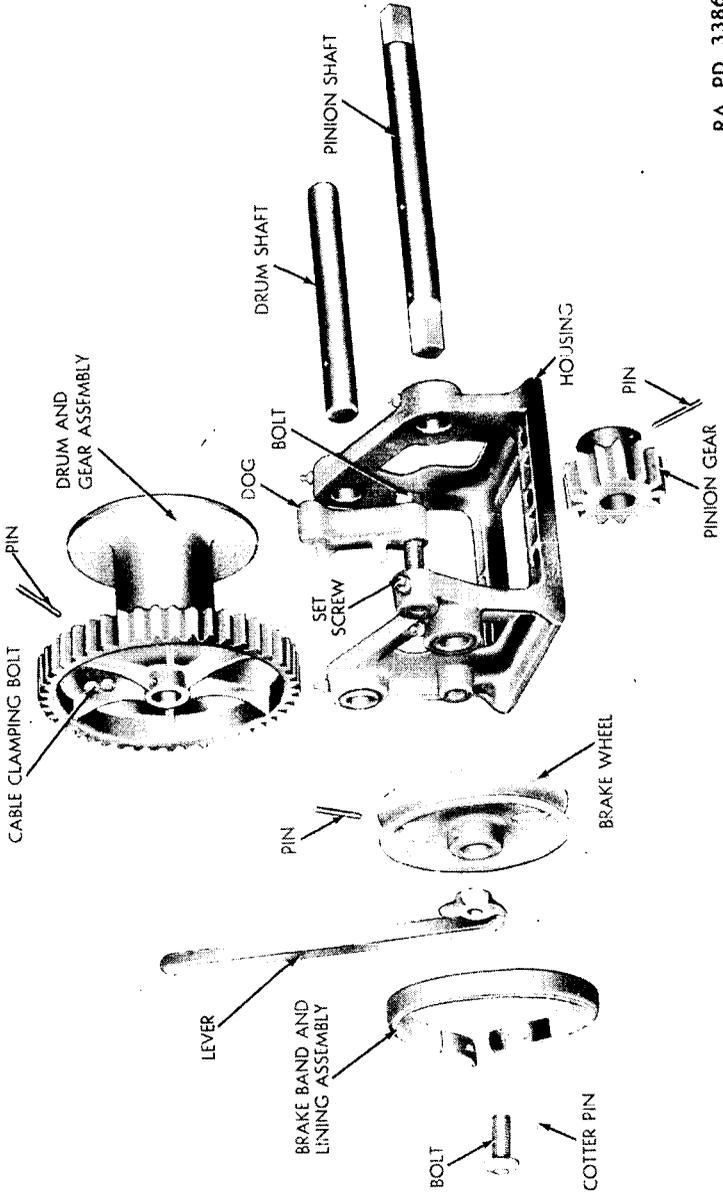

Figure 42. Winch assembly, exploded view (M41).
c. **DISASSEMBLY** (fig. 42). Remove the brake band by removing two cotter pins. Remove nut and lever. Loosen set screw, remove bolt, releasing dog. Drive pins from hub of brake wheel and pinion gear. Drive shaft out of hoist housing, pinion gear, and brake wheel. Drive pin out of cable drum and shaft. Drive shaft from cable drum and housing.
e. **ASSEMBLY**. (1) Place housing so that single mounting hole in the base is toward the assembler. Position the drum gear with the gear to the right. Aline pinhole in shaft and drum, and drive shaft into position in drum. Lock with straight pin and peen over the ends of pin.
(2) Start pinion shaft through the housing from the left side. Aline holes in shaft and pinion gear, placing gear on the shaft with gear toward housing (fig. 42). Drive shaft through the gear and housing until pinholes aline. Tap brake drum onto shaft with hub toward outside, keeping pinholes alined. Pin the gear and brake drum to the shaft with two straight pins. Peen over the ends of pins.
(3) Assemble pawl to housing with tooth toward drum gear, tighten bolt, check for clearance, and tighten setscrew (fig. 42).
(4) Assemble brake lever to housing with holes toward brake drum. Tighten nut, check for clearance and stake nut in position. Install brake band and secure to lever with two cotter pins.